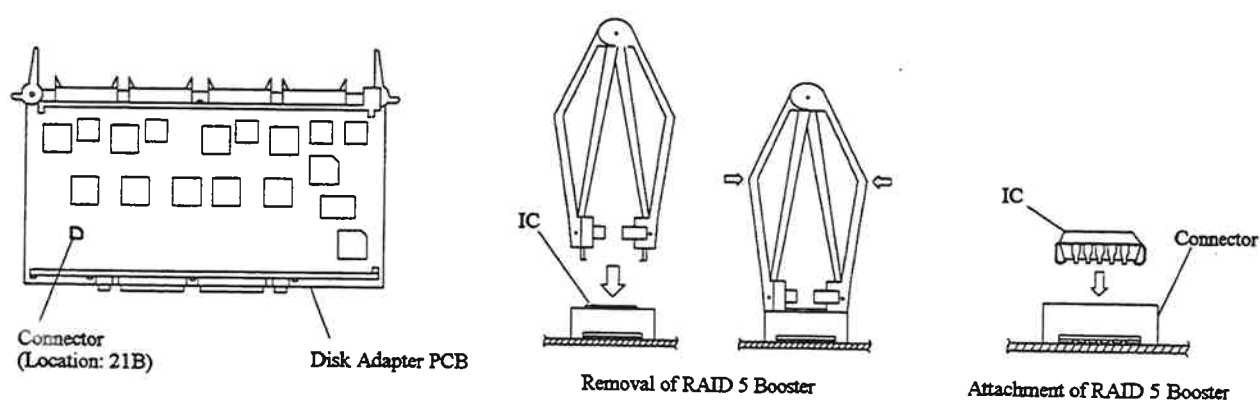

Fig. 3.7.4.3-3 Transfer of RAID 5 Booster
- Insert the PCBs to the correct locations in the Logic Box. Refer to Table 3.7.4.3-2 and Fig. 3.7.4.3-4.